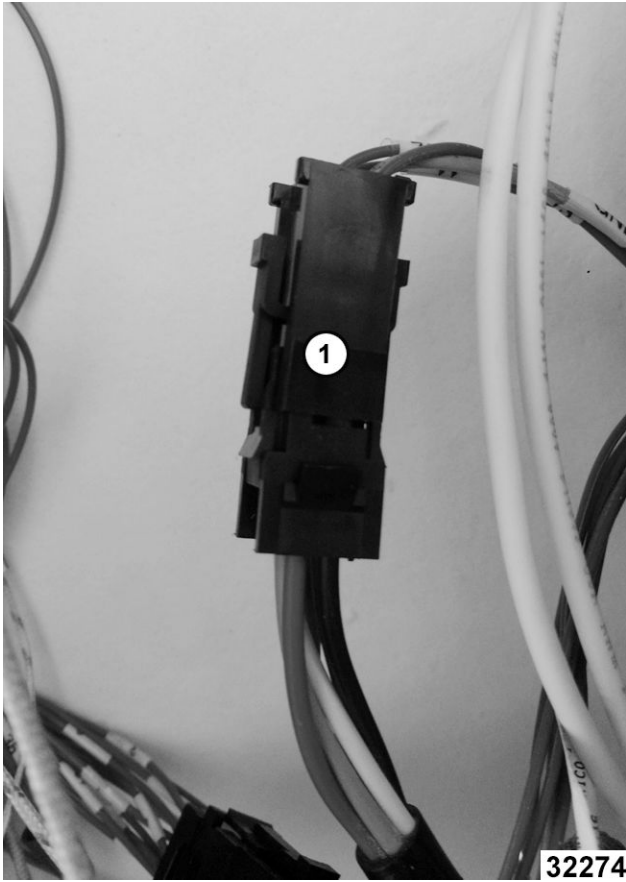

Fig. 28
2. Disconnect motor harness (1, Fig. 28).